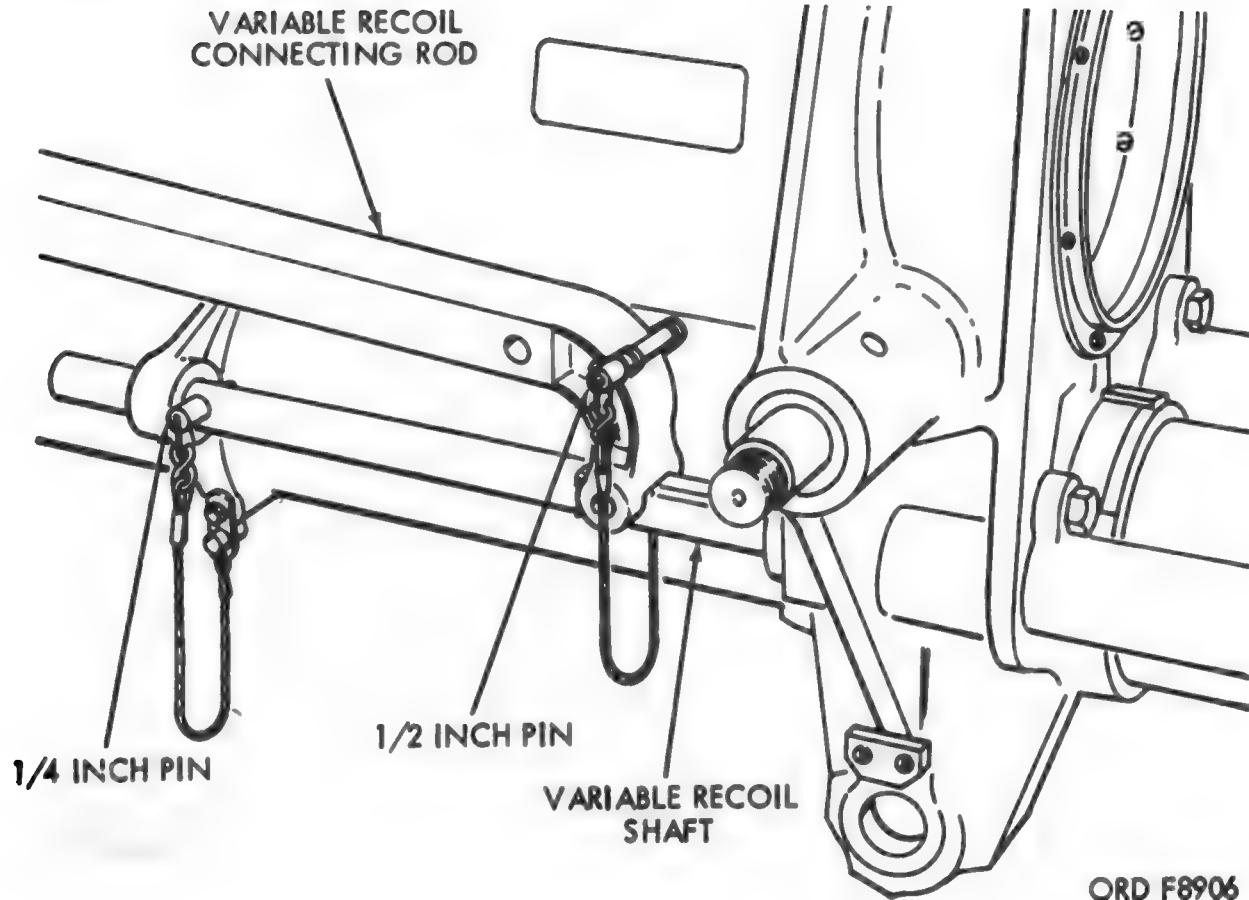

Figure 70. Positioning pin in variable recoil shaft for firing M484 projectile.
(2) Bring the howitzer to 0° quadrant elevation and install the 1/4-inch pin in the drilled hole at the rear of the variable recoil cam shaft (fig. 70). Install the 1/2-inch pin in the bracket on the variable recoil connecting rod.
(3) The variable recoil is then locked out allowing maximum recoil at all degrees of elevation.